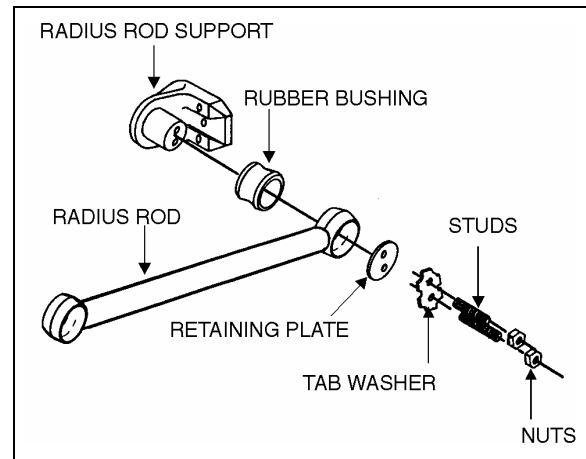

FIGURE 7: TYPICAL RADIUS ROD SETUP 16010
1. Flatten the tab washer which secures the two retaining nuts (or bolts), and then unscrew the nuts (or bolts) at each extremity of the radius rod (Fig. 7).